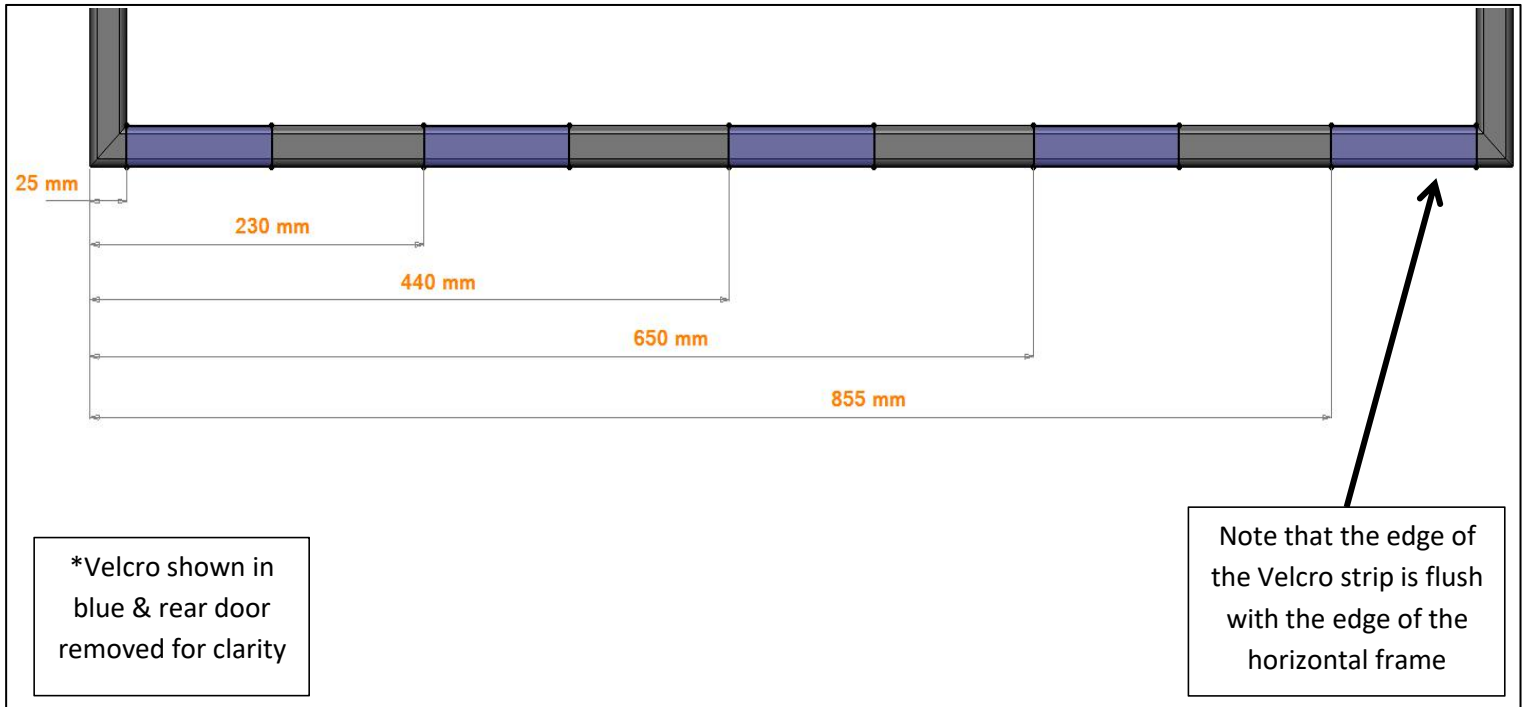

Figure 4: Velcro Application (Bottom Surface)
Apply the five (5) 100 mm long Velcro strips to the bottom surface of the rear door frame. Use a measuring tape and a pencil, to mark out the locations, as shown in Figure 4 below:
Peel back the white backing layer, and apply the Velcro, starting in the one corner, flush on both edges of the frame and work your way along the length slowly. After the Velcro is seated, use the 3M PA-1 Applicator to apply a smooth, constant pressure sweep from one end to the other. This even pressure activates the bonding adhesive, and pushes out air bubbles. See Figure 4, below: